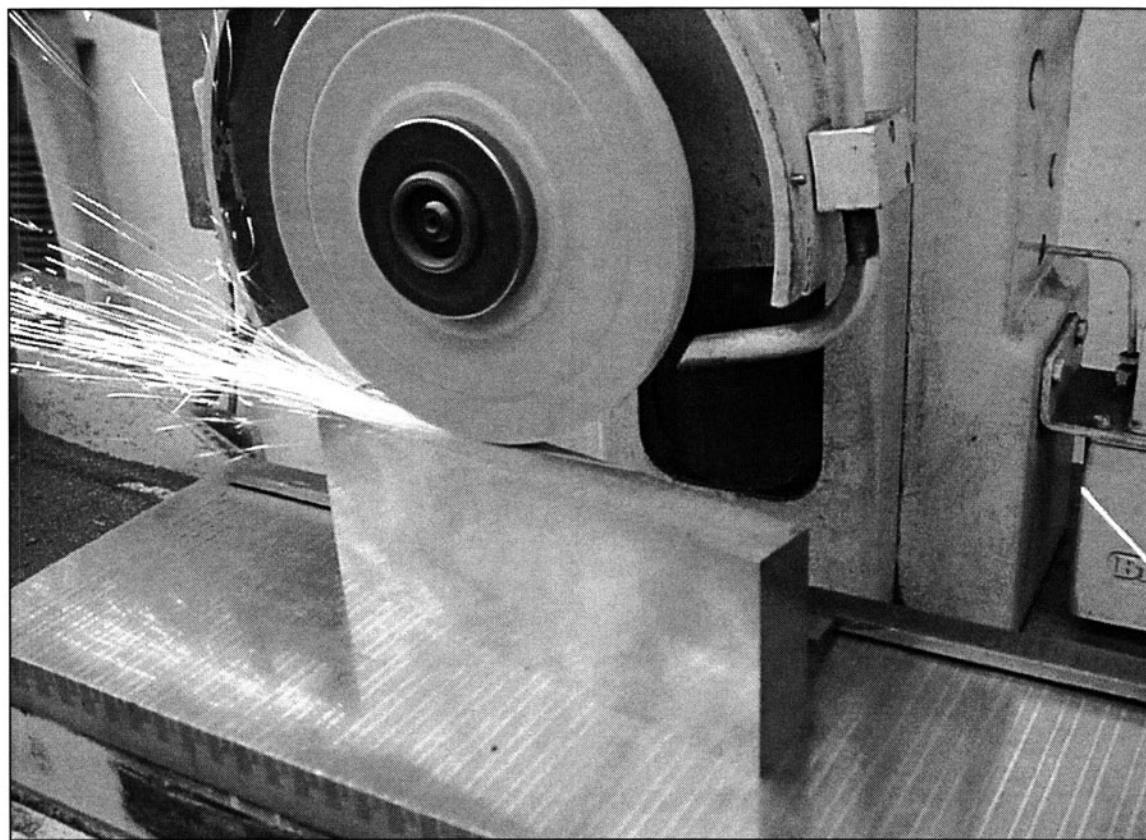

FIGURE 14-19 Blocks can be set at an angle on a magnet to avoid concentrating heat in one area during grinding which may help reduce heat distortion.
32. What's the purpose of grinding on the skew? (See Fig. 14-19)